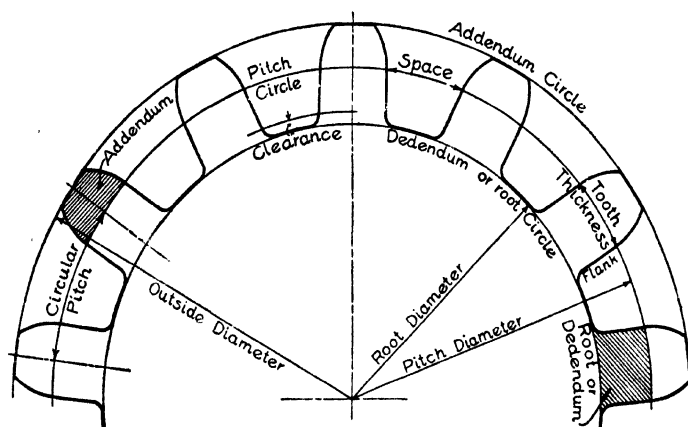

Fig. 57. Names of Tooth Parts
**Definition of Terms.** In designing or cutting gears, it is quite essential that the terms as applied to this practice be clear to the operator. The nomenclature of gears and their measurements are such that only by diagram, shown in Fig. 57, together with the